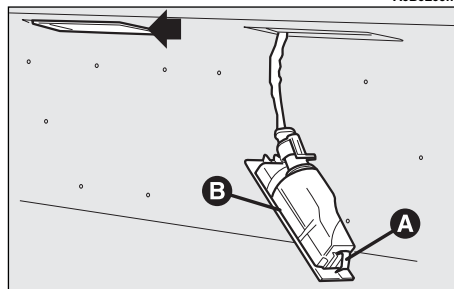

fig. 47
- Remove the number plate light unit using a flat screwdriver protected by a soft cloth on the stopper (**A-fig. 47**).
- Remove the unit (**B-fig. 47**).
— Refit the complete unit (**B-fig. 47**) firstly inserting the catches and then pressing in correspondence with the stopper (**A-fig. 47**).